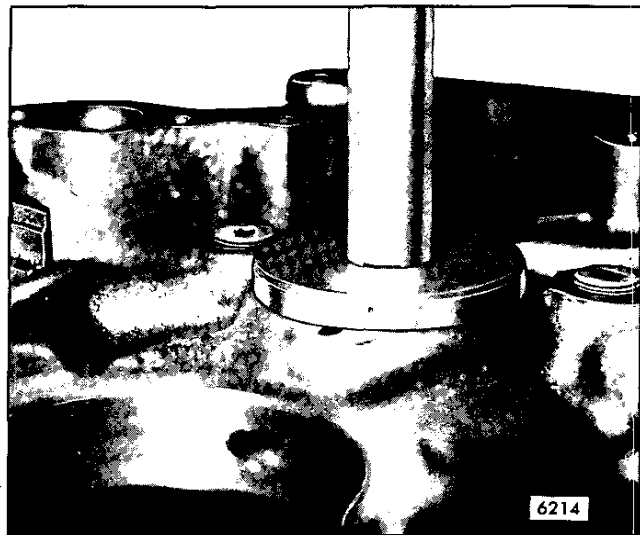

Fig. 3 - Installing Nos. 2, 3 and 4 Bearings
The three center bearings (bearings 2, 3 and 4) and the front bearing (bearing 1) should be installed from the front of the cylinder block. The rear bearing (bearing 5) is installed from the rear of the block. The calibrated marks on Driver J 29141-3, when aligned with the top surface of Pilot J 29141-2, indicate the correct bearing location in the block (Fig. 3).
3. Using a lead hammer, drive the bearing into the block until the calibrated mark on the Driver is flush with the top of the Pilot (Fig. 3).